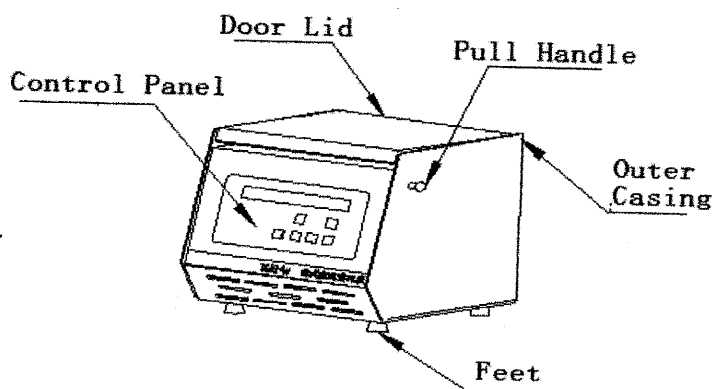

Figure 1 Mainframe Shape
(1) The structure of whole machine (Figure 1)